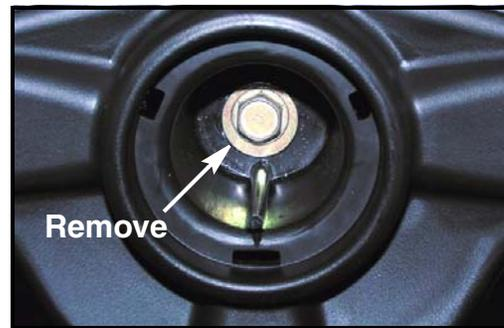

FIGURE 3
5. Using a 1/2" socket, extension and ratchet wrench, remove the bolt and washer that retains the steering wheel to the steering shaft. See Figure 3.